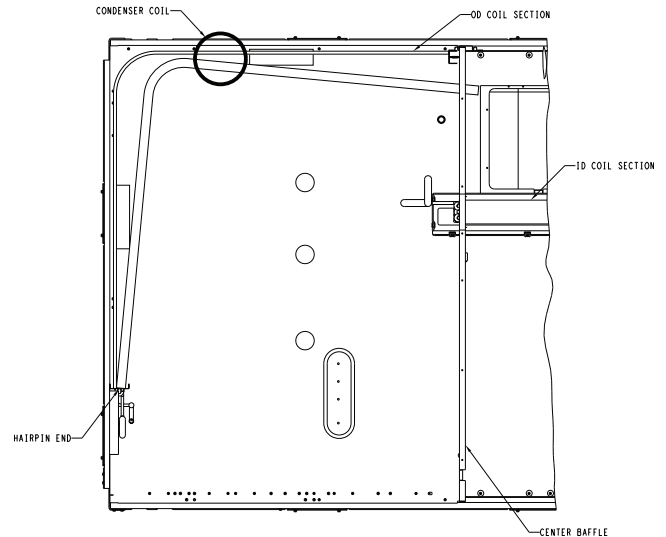

Fig. 21 — Separating Coil Sections (Top View)
8. Insert a spacer (field-supplied) between the tube sheets to hold the coils apart. See Fig. 21.